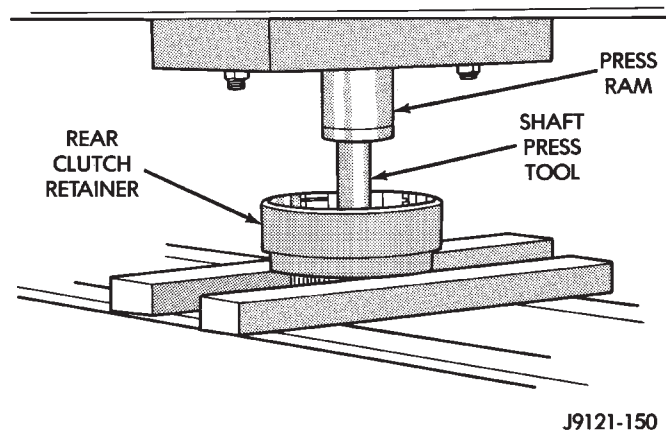

Fig. 68 Pressing Input Shaft Out Of Rear Clutch Retainer
- (7) Press input shaft out of retainer with shop press and suitable size press tool (Fig. 68).
- (8) Remove input shaft front/rear seal rings.